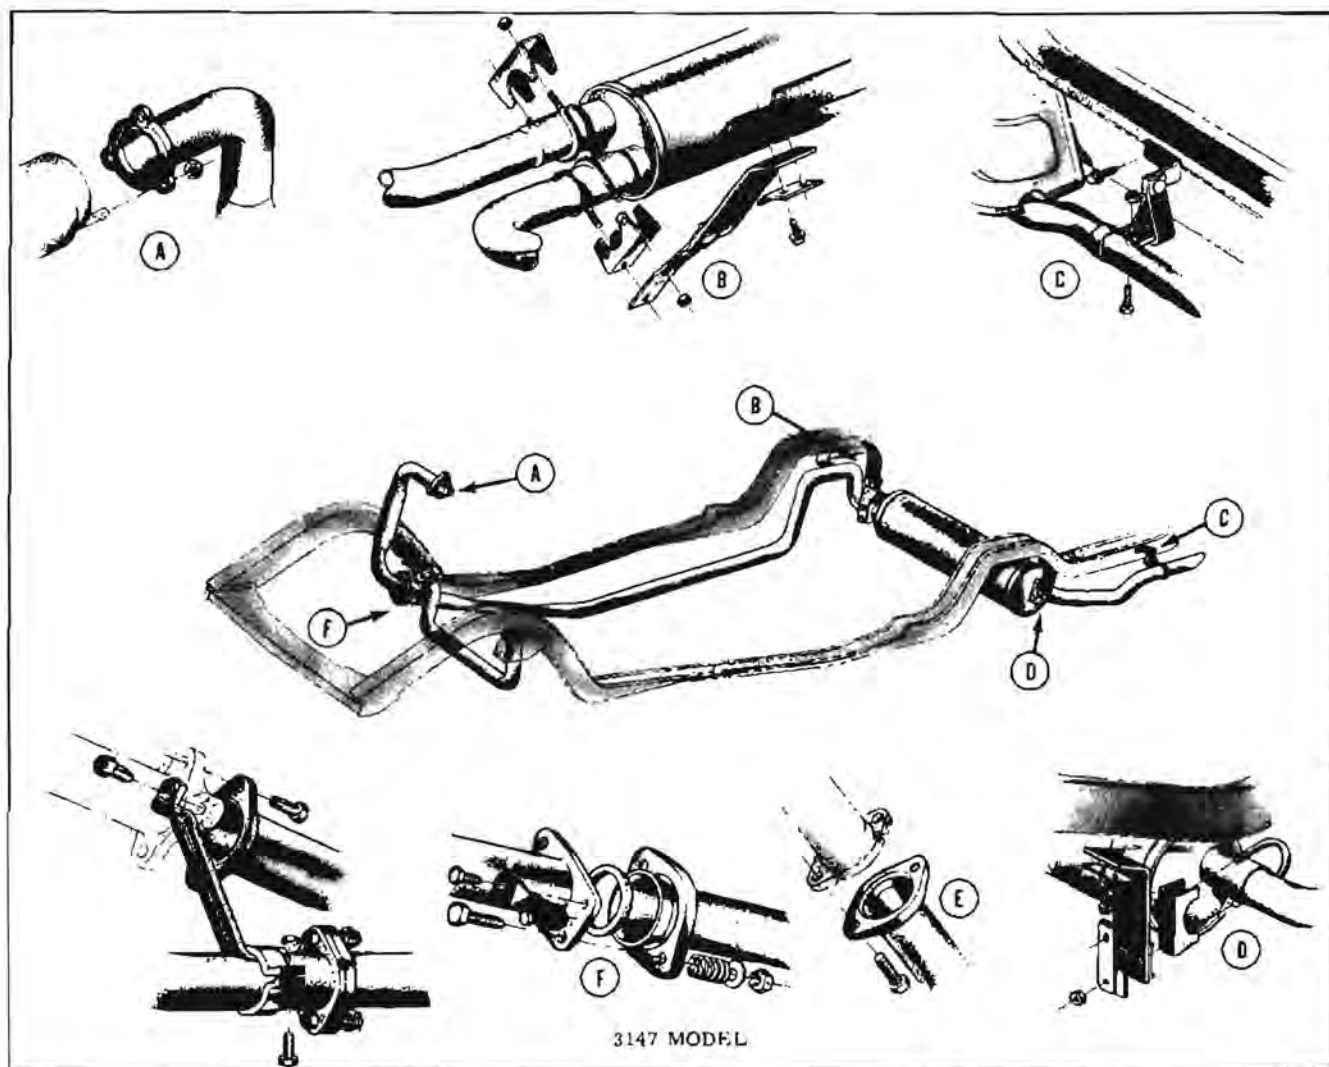

Fig. 8-185 Exhaust System (3147)
The exhaust system used on the (3147) model consists of a turbo-charger inlet exhaust pipe (not shown), turbo-charger outlet exhaust pipe, crossover pipe, intermediate exhaust pipe incorporating a resonator, rear exhaust pipe, dual outlet muffler and two (2) tail pipes. (Fig. 8-185)